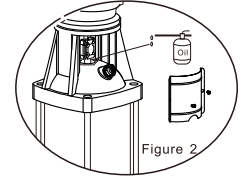

Figure 2
10.1 Pump such as longtime need not work, should remove the coupling cover, pour oil on the pump shaft to prevent mechanical sealing surface sticky, then heavy coupling cover. (Figure 2)